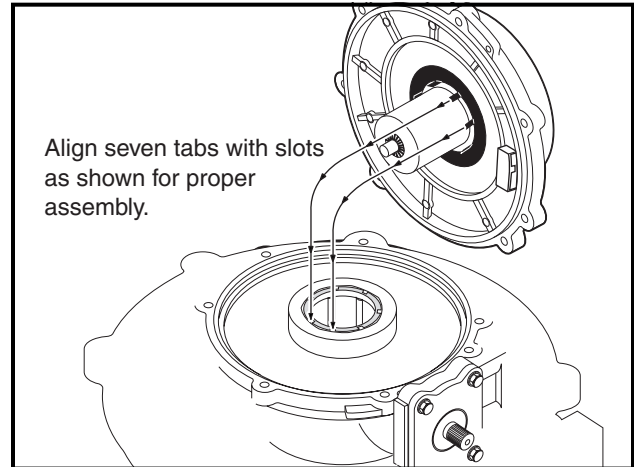

Figure 9-17 Align Armature Plate Tabs and Ring Gear Bearing Cage Slots
2. Use the pinion gear shaft and turn the gear so that one of the tab slots in the ring gear hub and bearing cage assembly is in line with the pinion gear shaft (**Figure 9-17, Page 9-7**).